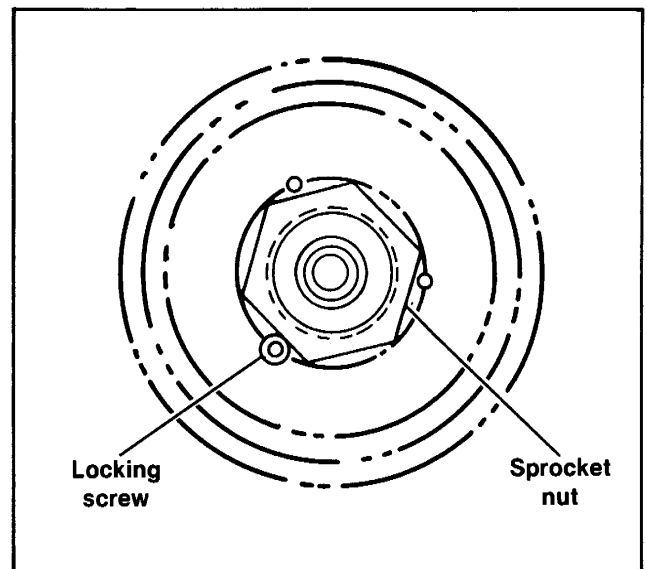

Figure 6-12. Securing Sprocket Nut
3. Apply rear brake and tighten sprocket nut to 110-120 ft-lbs torque using Part No. HD-94660-37A. If necessary, turn the sprocket nut an additional amount (150 ft-lbs maximum), just enough to expose one of three locking screw holes. The proper hole location in relationship to the nut is shown in Figure 6-12. Coat threads of locking screw in the exposed hole and tighten to 50-60 in-lbs torque.